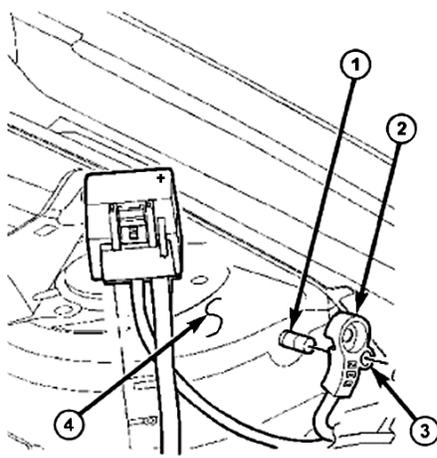

Fig. 1 Battery ground cable remote terminal location
1. Disconnect and isolate battery ground cable remote terminal (2) from remote battery post (1), **Fig. 1**.
7. Connect battery ground cable remote terminal (2) from remote battery post (1), **Fig. 1**. **Torque** battery cable clamp nut to 45 inch lbs.